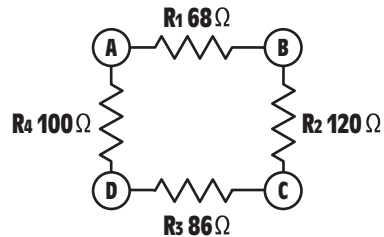

Figure 7-21 Practice Problem 1.
1. Refer to the circuit shown in *Figure 7-21*. Determine the amount of resistance that would be measured across the points indicated.